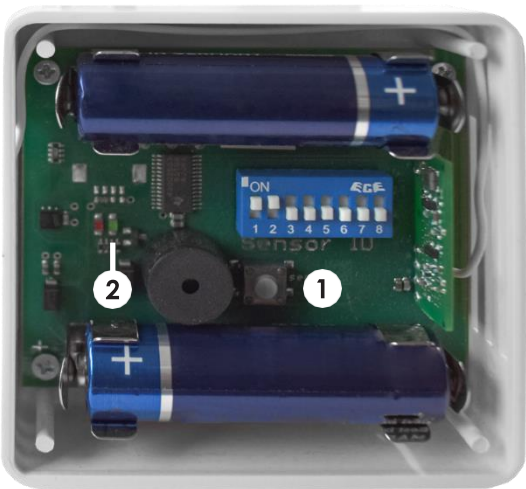

Fig. 3.4.3: Check functionality
3. Check the radio humidity transmitter for functionality. To do this, press the button (fig. 3.4.3/1).
- + When the LED (fig. 3.4.3/2) lights up briefly, the radio damp-transmitter is ready for operation. If the radio transmitter emits a short signal tone at regular intervals during operation, replace the batteries.